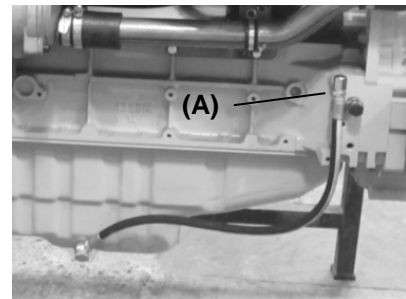

Fig. 4.1
This operation is done by oil drain pump (see Fig. 4.1). Dismount the plug (A) and fit the hand oil pump. Connect a hose from the oil drain pump to a container. Process the old oil in accordance with the local regulations.